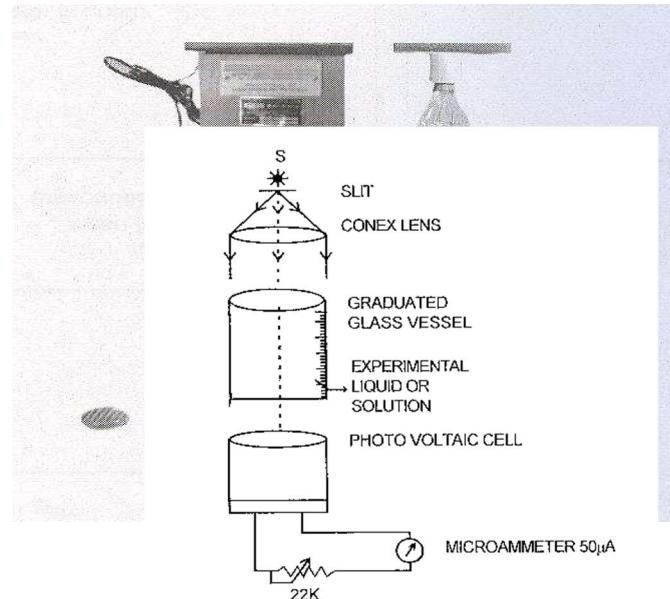

FIG. 1.
1. The experimental arrangement is made as shown in fig. 1. Remove the glass vessel and cover of the photovoltaic cell and switch on the bulb, adjust the pot in such a way that the reading of micro ammeter does not exceed 50 micro amp.